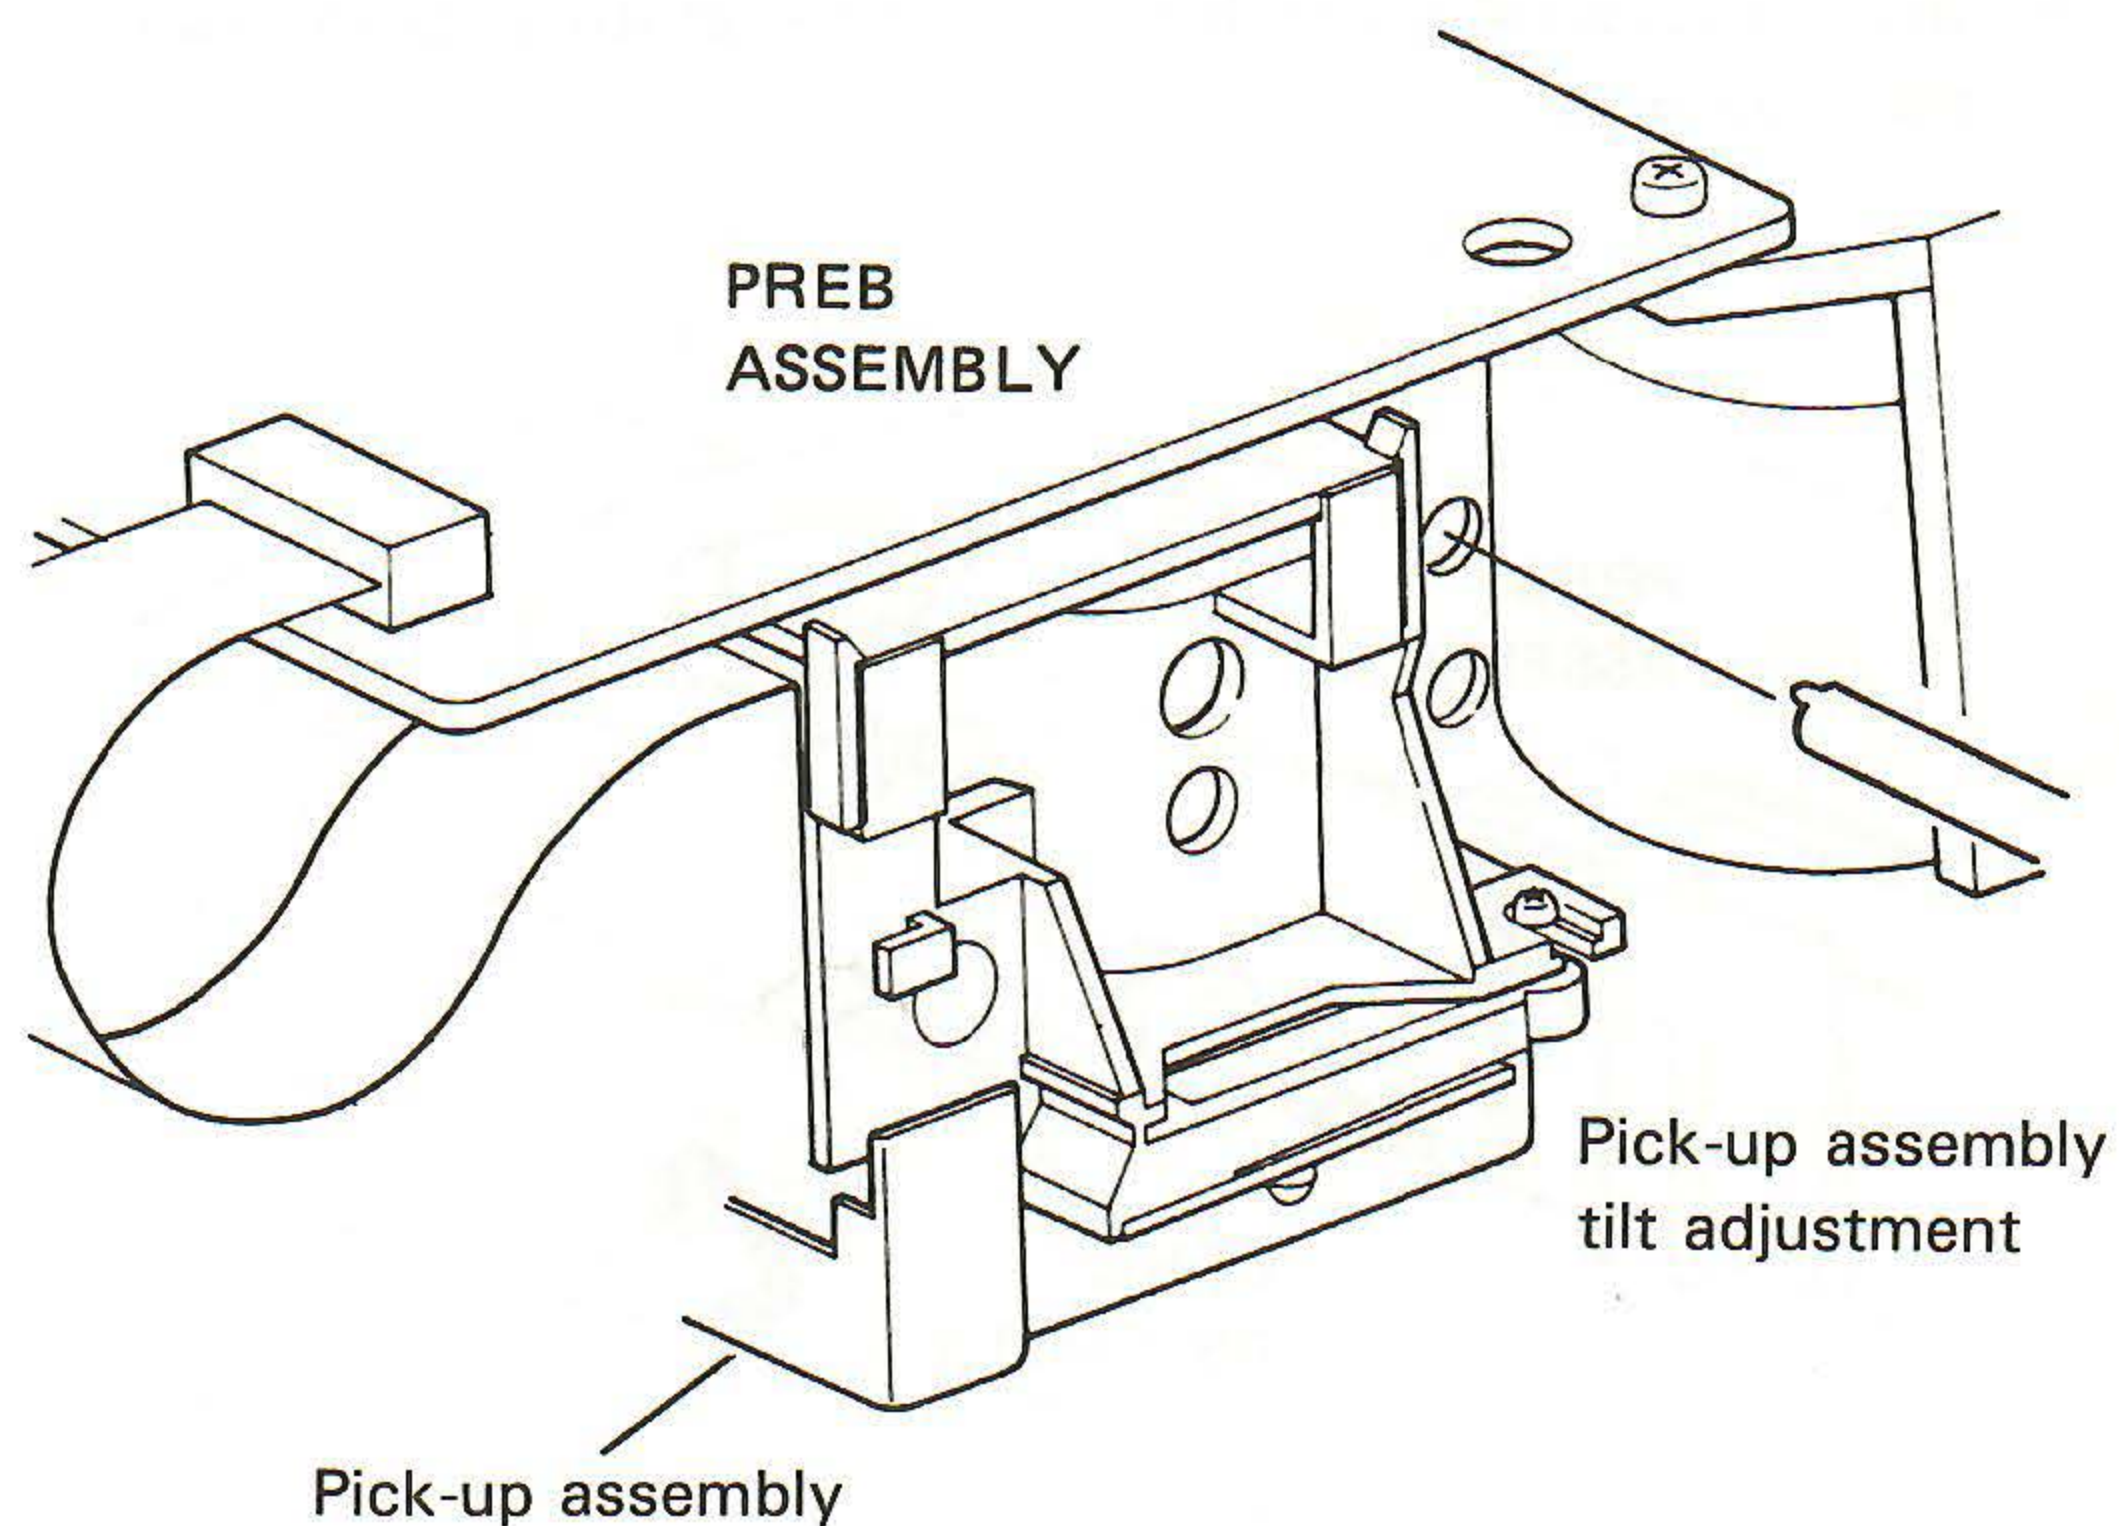

Fig. 10-9 Pick-up assembly adjustment location
4. Search frames #104 and #18,914 and make sure that crosstalk is minimum at both. If excessive crosstalk appears on the screen even after adjusting the tilt of the Pick-up assembly, fine adjust using the Pick-up assembly tangential tilt adjustment screw shown in Fig. 10-9 to minimize the crosstalk.